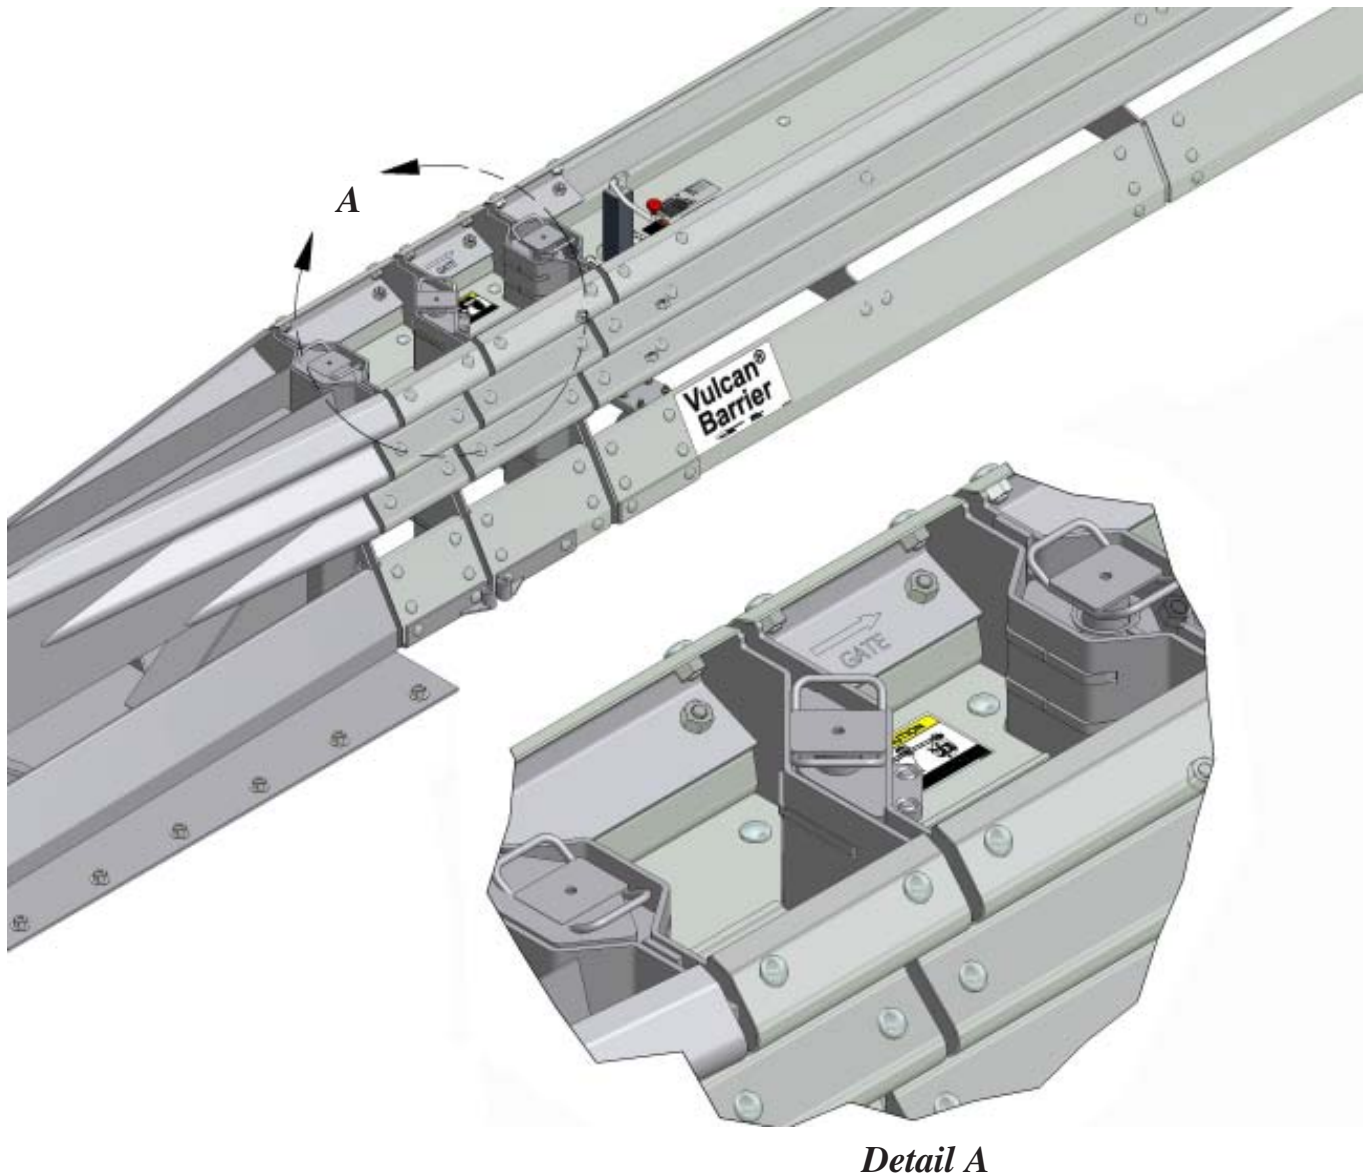

Figure 11
4. Attach the hinge sections to the transitions with the connecting pins. Ensure top tab of pins is on swinging side of gate and that gate direction arrows are pointing to the median opening. (See Figure 11)